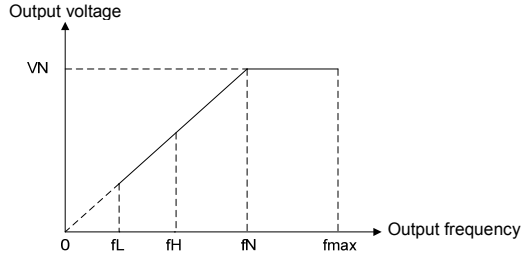

Fig. 6-8
B0-09 upper limit frequency is the user-defined maximum allowable running frequency and represented by f_H in Fig. 6-8.
B0-10 lower limit frequency is user-defined minimum allowable running frequency and marked with f_L in Fig. 6-8.
In Fig. 6-8, f_N represents rated frequency of motor while V_N means the rated voltage of motor.
- The rank relation between maximum frequency, upper limit frequency and lower limit frequency is shown as Fig. 6-8.